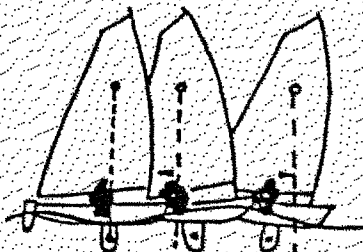

fig. 81
- * When the boat enters the a wave, move your upper body back to get the bow out of the water. When you get to the top of the wave, move forward to your normal position or even a bit further (*fig. 81*).